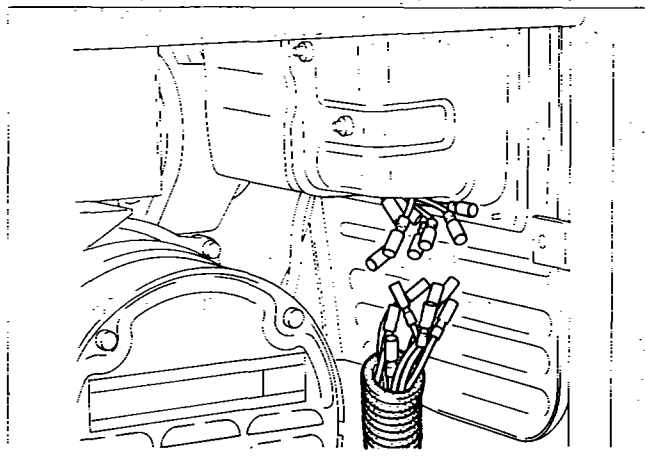

Fig. 10-2
(2) Disconnect the connectors on the wiring between the front panel and the engine. (See Fig. 10-2.)
(3) Take off the bushing from the bottom of the front panel. (See Fig. 10-2.)